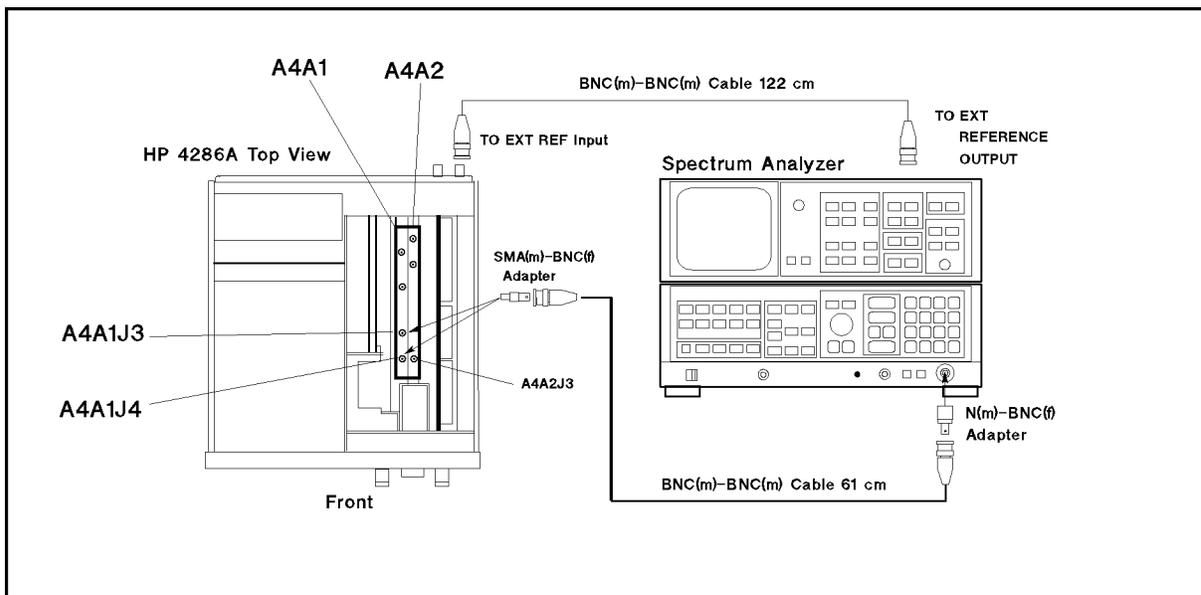

Figure 7-10. 1st LO OSC Signal Test Setup
- Remove the "C" semi-rigid cable from A4A1J3, and connect the equipment as shown in Figure 7-10. In this procedure, connect the spectrum analyzer input to A4A1J3.
- Remove the “F” semi-rigid cable from A4A1J4 and A4A2J3, and connect the equipment as shown in Figure 7-10. In this procedure, connect the spectrum analyzer input to A4A1J4.